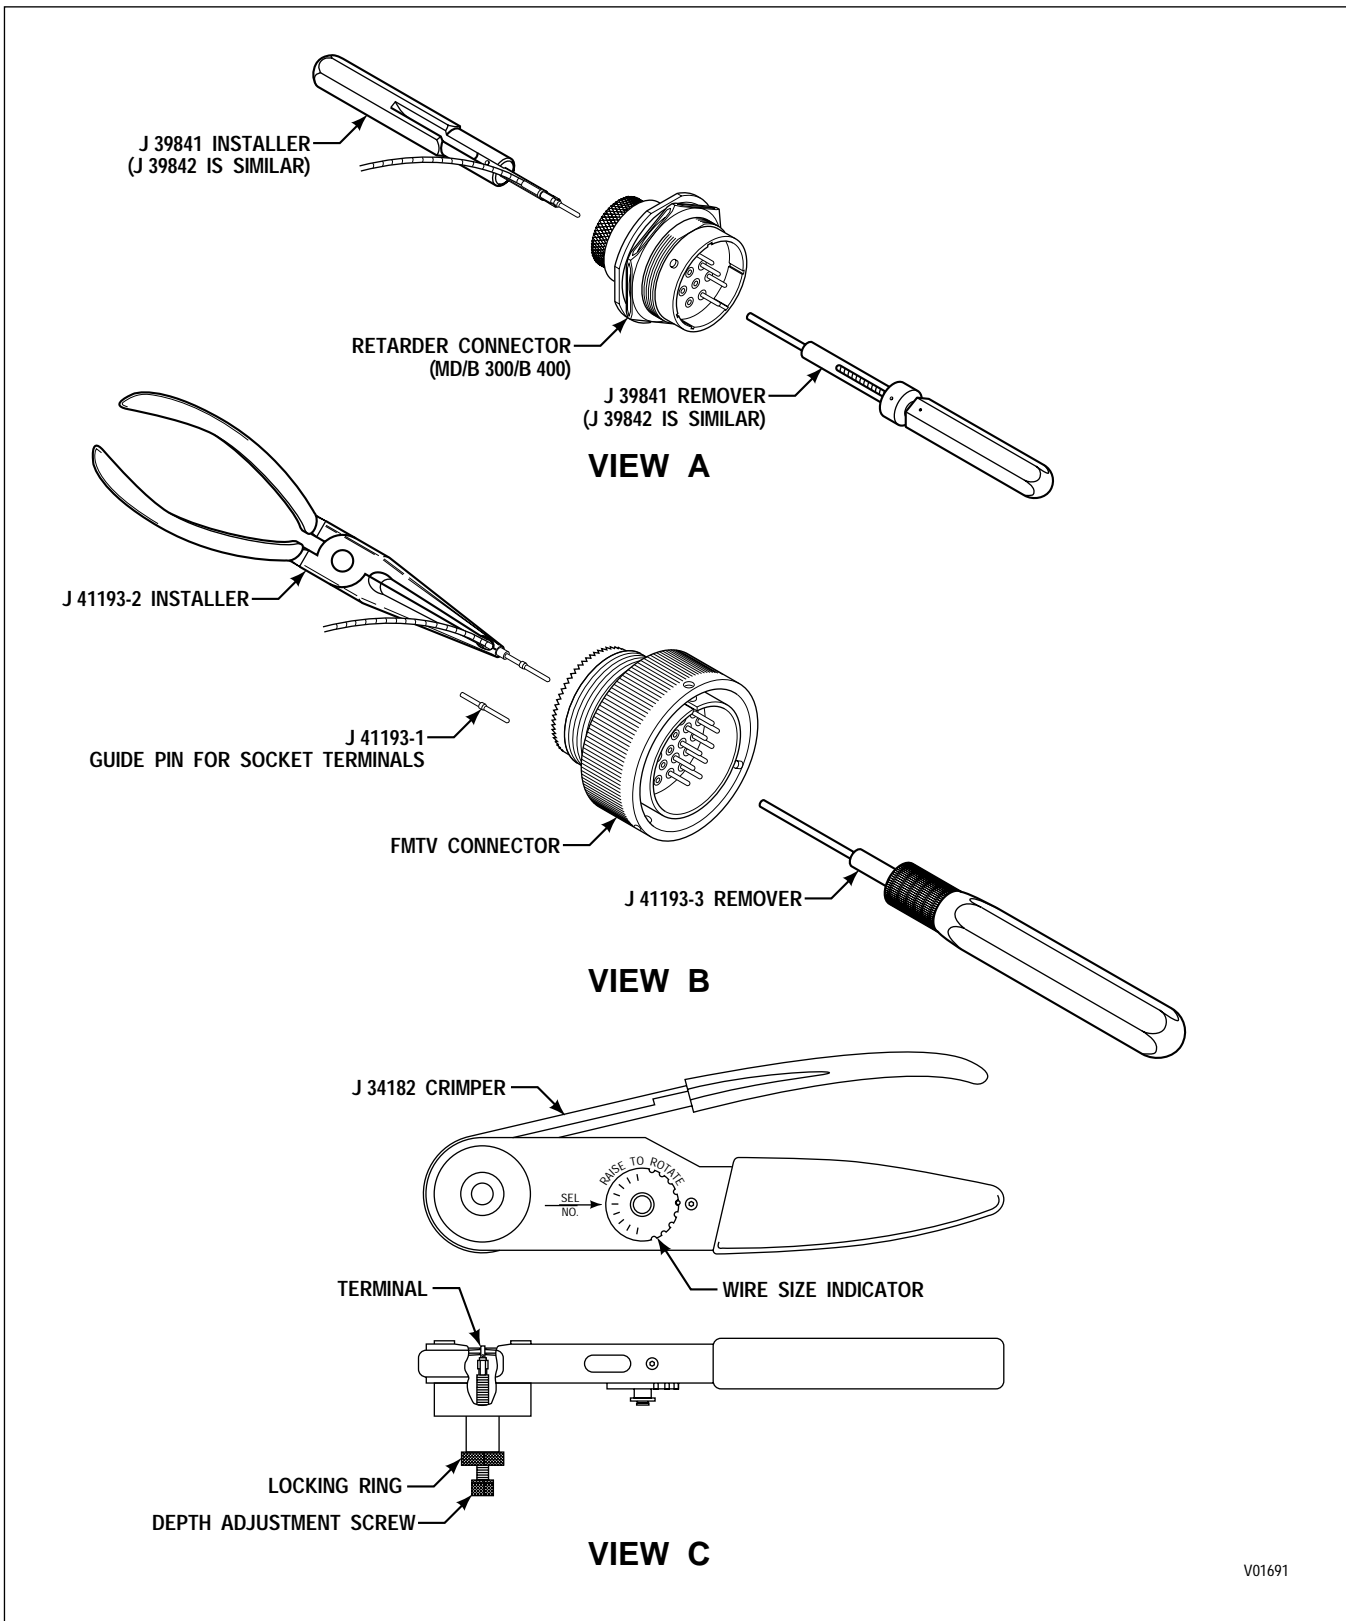

Figure E-10. ITT Cannon Connectors — Crimped (37-Way FMTV Bulkhead; 6-Way Transfer Case; 8-Way MD Retarder)
### C. Terminal Crimping (refer to Figure E-10, View C)
2. Place the terminal and wire in the insertion tool (refer to Figure E-10, Views A and B).